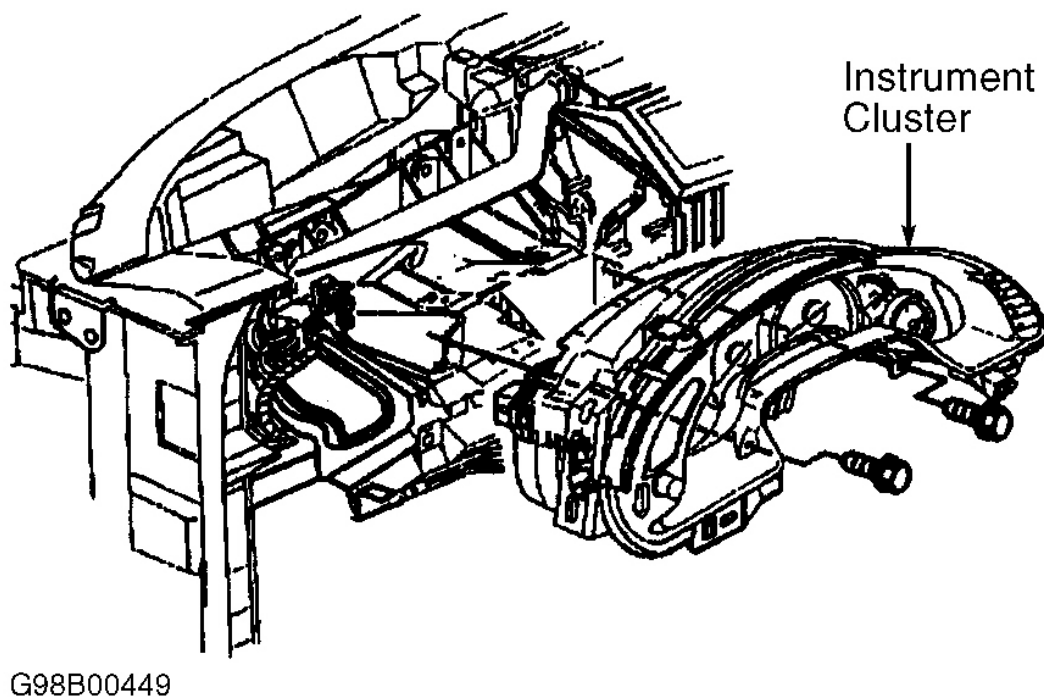

Fig. 2: Exploded View of Instrument Cluster
2. Lift rear of IPC slightly to release locator tab. Lift IPC and disconnect electrical connector. Remove IPC. See **Fig. 2** . To install, reverse removal procedure. Tighten IPC-to-steering column bracket screws to 31 INCH lbs. (3.5 N.m).